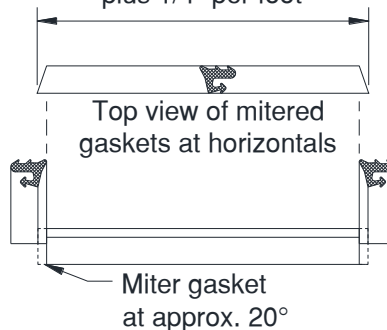

Figure 34: Gasket Cut Guide
- 13.1.2.11 Cut the **FG-5730** Gasket a minimum of 1/4" per foot longer than the Transom D.L.O., to provide adequate compression, and miter the ends of the gaskets at a 20° angle, as shown in *Figure 34*.